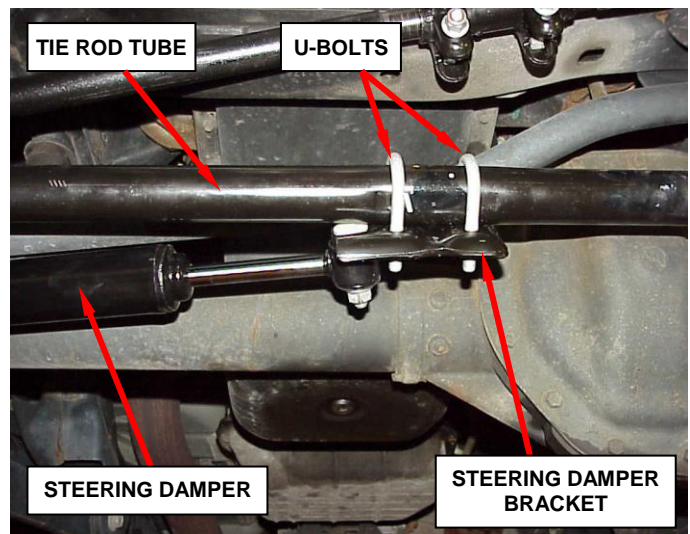

Figure 2 – Steering Linkage
- If the steering damper mounts to the tie rod tube as shown in Figure 2, the steering linkage must be replaced. Continue with **Section B. Replace Steering Linkage.**